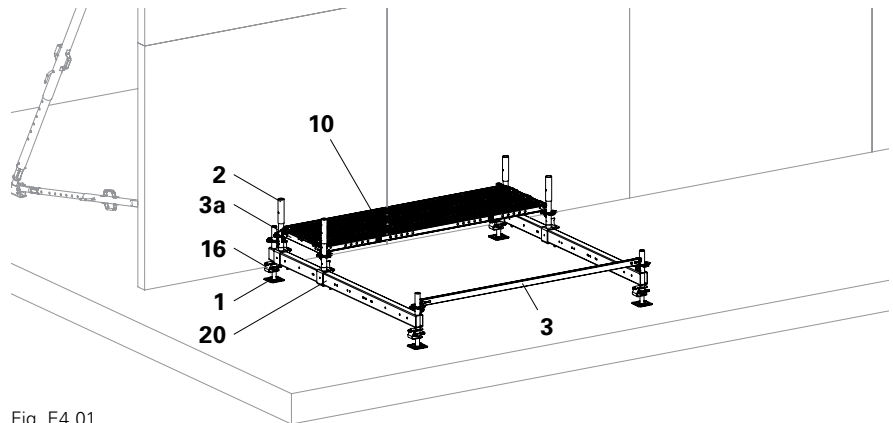

Fig. E4.01
5. Insert Base Standard UVB (2) and mount Ledger UH 75 (3a).
7. Insert Steel Decks UDG (10). Standing position: below.
8. Secure Adjustable Base Plate UJB with Spindle Locking UJS (16). (Fig. E4.01)